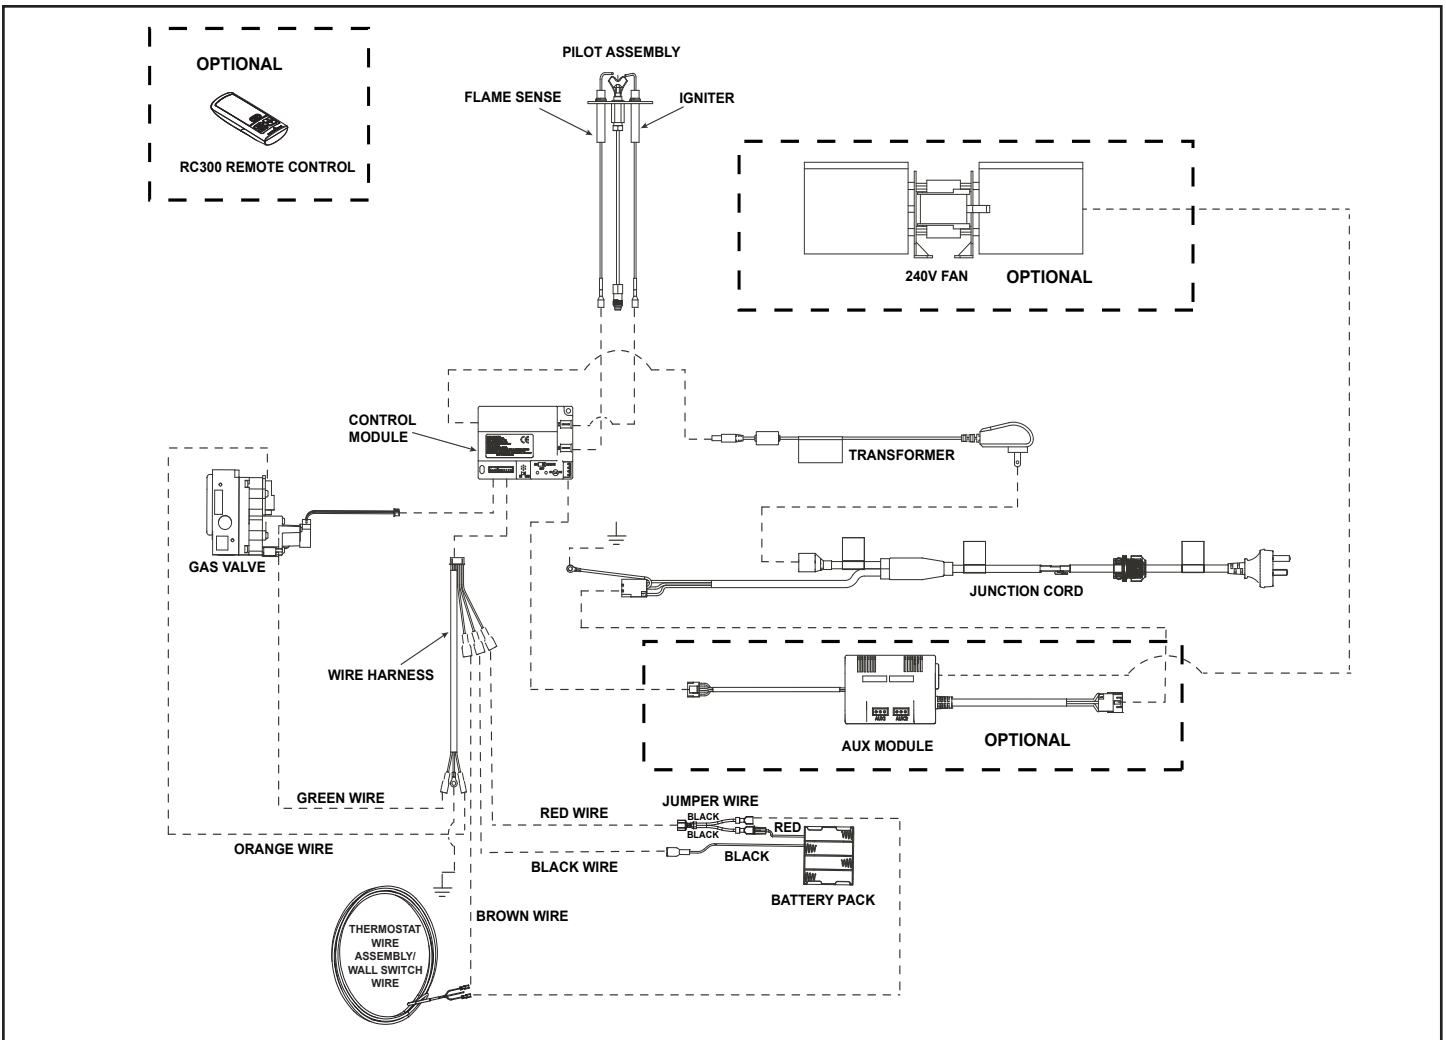

Figure 8.3 IntelliFire™ Plus Wiring Diagram
- Refer to Figure 8.3, IPI Wiring Diagram.
The junction cord and control module can be accessed by removing the vanity panel and component heat shield. The decorative front must be removed to access these components. See Figure 8.3.